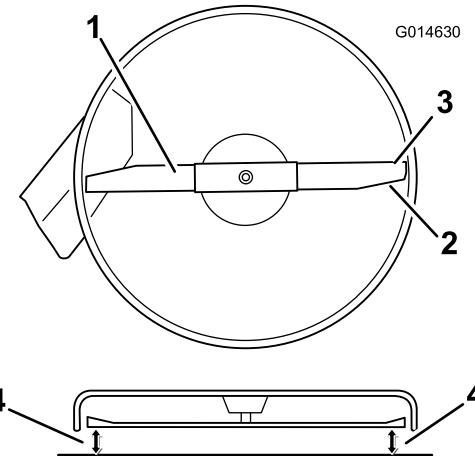

Figure 52
4. Carefully rotate the blade(s) so that they are all side to side (Figure 52).
- 5. Measure between the outside cutting edges and the flat surface (Figure 52). If both measurements are not within 5 mm (3/16 inch), an adjustment is required; continue with this procedure.